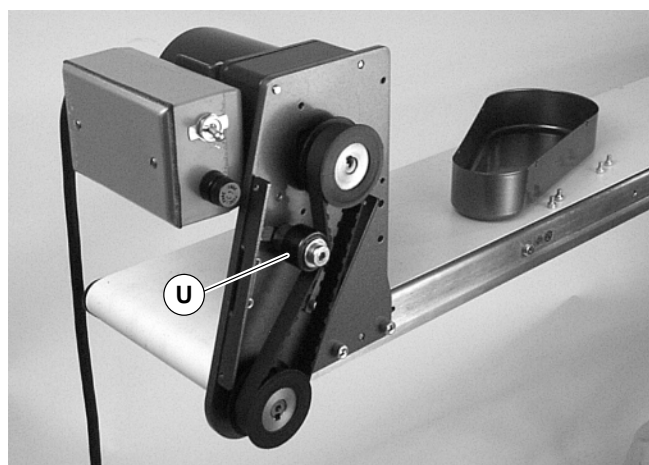

Figure 10
2. Loosen tensioner (U of Figure 10).
3. Loosen tensioner (U of Figure 10).